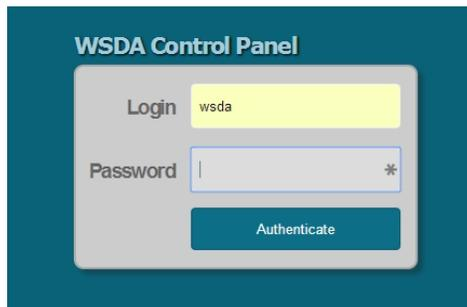

**Figure 6 - Gateway Control Panel Access (Live Connect™)**
3. To access Control Panel through Live Connect™, highlight the device, and select the View button (Figure 6 - Gateway Control Panel Access \(Live Connect™\)).